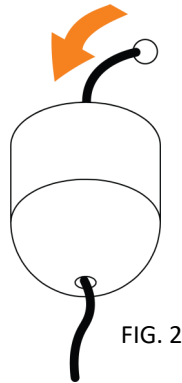

FIG. 2
- Thread the suspension cable through the ceiling cup (Fig. 2) with the ball end inside the cup.